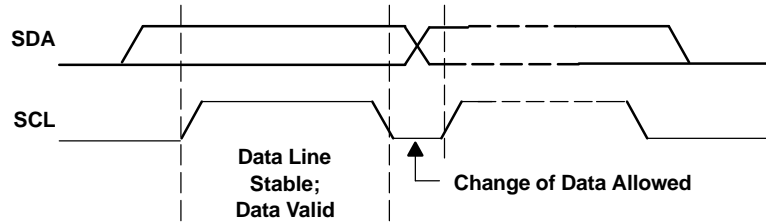
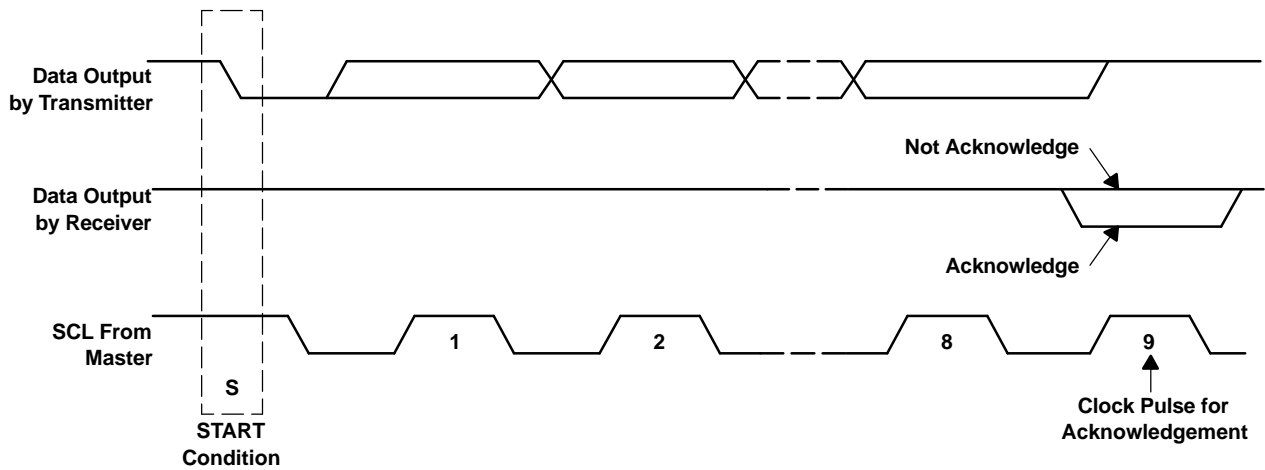

Figure 30. Bit Transfer on the I²C Bus
Figure 31. Acknowledge on the I²C Bus
- The master then generates the SCL pulses, and transmits the 7-bit address and the *read/write direction bit* R/W on the SDA line. During all transmissions, the master ensures that data is *valid*. A *valid data condition* requires the SDA line to be stable during the entire high period of the clock pulse (see Figure 30). All devices recognize the address sent by the master and compare it to their internal fixed addresses. Only the slave device with a matching address generates an *acknowledge* (see Figure 31) by pulling the SDA line low during the entire high period of the ninth SCL cycle. Upon detecting this acknowledge, the master knows that communication link with a slave has been established.